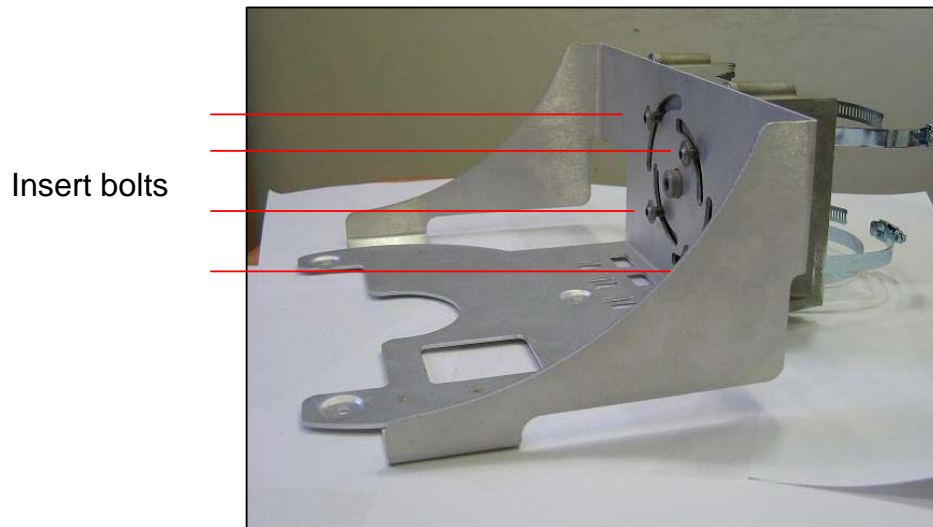

Figure 3.7. **Attaching the Tray to the Back Plate**
6. Attach the tray to the back plate as shown in Figure 3.7.